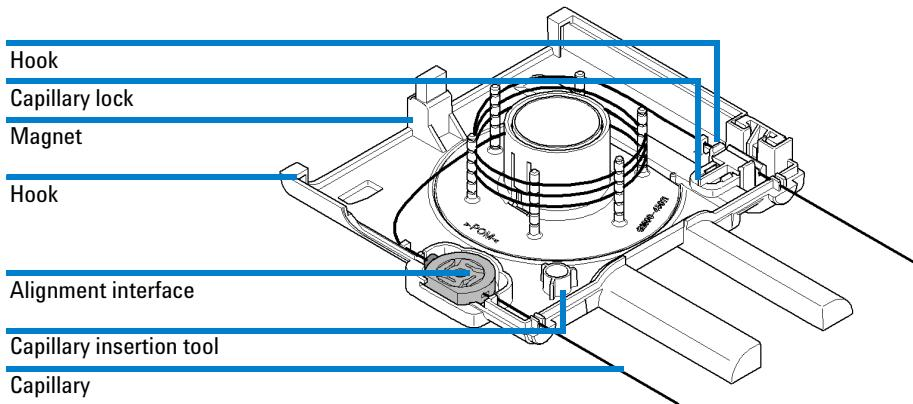

Figure 33 Installing the capillary
- 2 Insert the alignment interface into the alignment interface holder on the cassette. Make sure the flat side of the alignment interface is at the outer edge of the cassette, see Figure 33 on page 143.
- 8 Make sure the two capillary ends outside the cassette are the same length as the cassette guiding pins (see Figure 33 on page 143, alignment position) and are parallel to the pins. Use a sheet of paper or another soft item with a straight line to check this. Use the capillary lock to make adjustments on the inlet side.